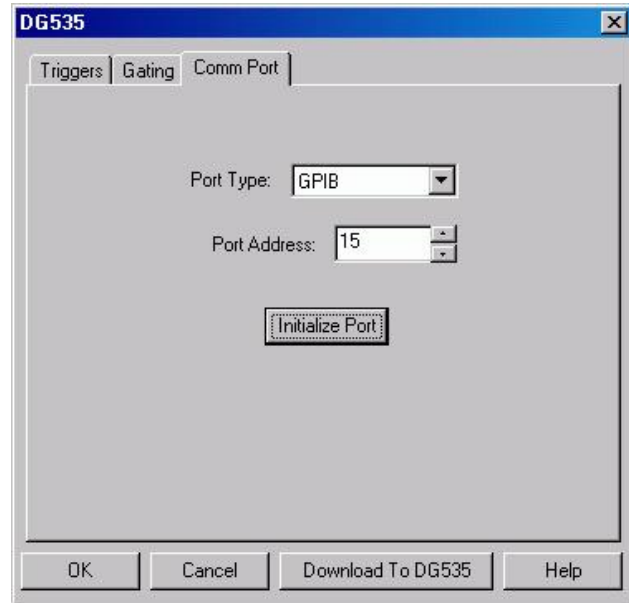

Figure 171. DG535 Comm Port tab page
5. Click on the **Comm Port** tab (Figure 171).